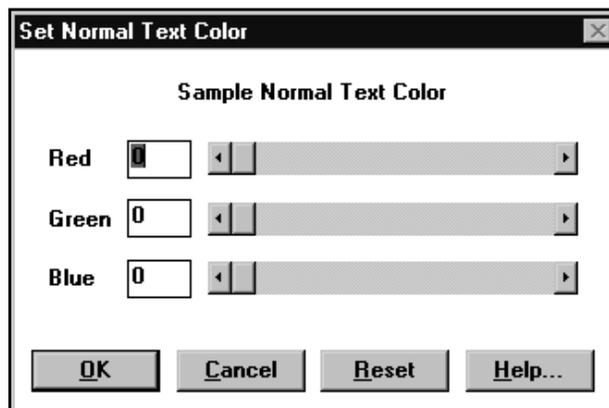

FIGURE 74. Set Normal Text Color dialog box
3. To set colorblind normal text color, select the Set Normal Text Color button. (See Figure 74.)